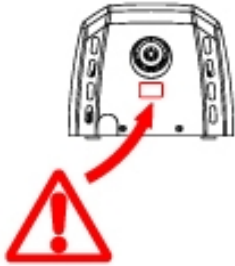

Figure 11
- During this process of fitting the casing to the base take care not to damage the electronic circuit that is below the hand dryer's nozzle (Figure 11).